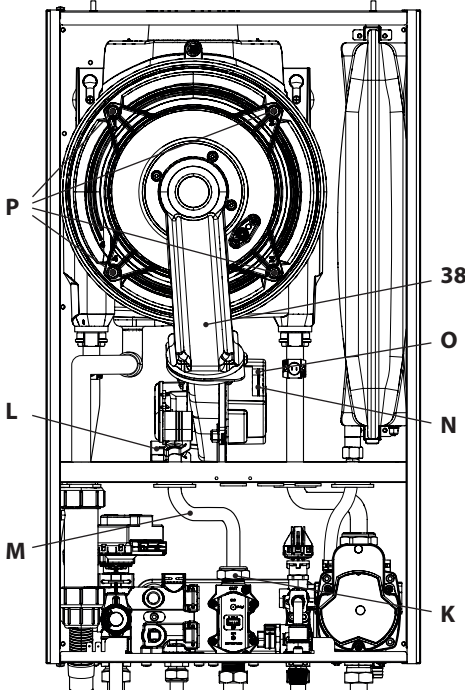

Figure 9.12
Removing the burner fan unit 38 in Figure 9.12.
- Disconnect the connector **N** by pulling it downwards (Figure 9.12).
- Disconnect the fan connector **O** by pulling it downwards (Figure 9.12).
- Loosen the nuts **P** and remove the fan burner unit 38 (Figure 9.12)